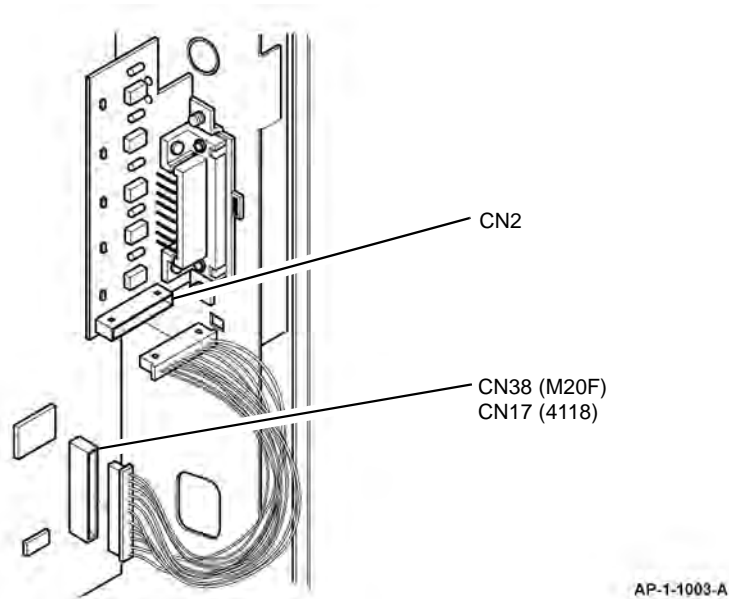

Figure 3 Harness install
8. Install the PBA foreign device interface harness. Connect the harness to CN38 (M20F) or CN17 (4118), Figure 3.
NOTE: The M20F PBA main connector (CN38) is shown in Figure 3. The 4118 PBA main has a horizontal connector (CN17).